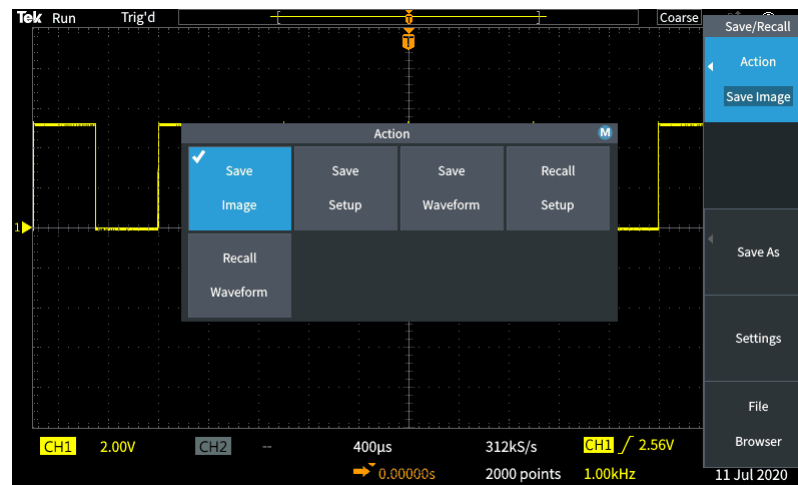

Figure 17. Selecting to save as Image
4. Use the side bezel button to set the **Action** to **Save Image**. (Figure 17)